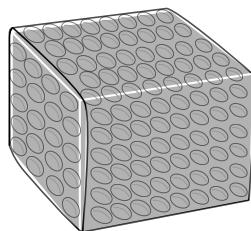

Figure 3
3. Wrap the article completely in 3/16" anti-static bubble (Uline Model # S-396). Complete wrapping is a minimum of 3" of bubble on each side. Each battery must be separated and individually wrapped so as to prevent short circuits. (See Figure 3)